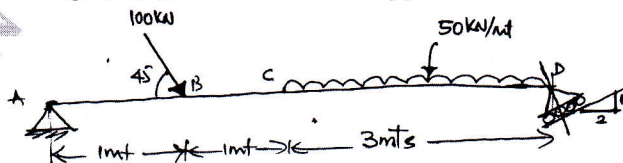

Fig Q5(b)
b. For the beam shown in Fig Q5(b), determine the support reactions.